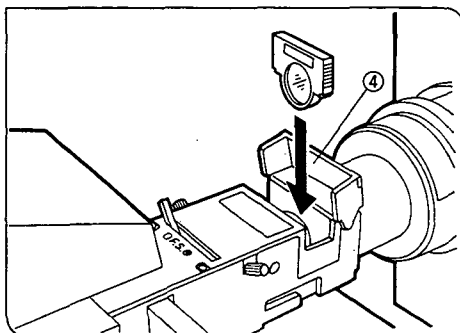

Fig. 16
2. Move the vertical illuminator's cube selector knob ① to the "FL" position.
3. Turn the field iris diaphragm lever ② in the ○ direction to open the diaphragm.
4. Place a white sheet of paper on the stage. Push in the shutter ③ to project the arc image onto the paper.
- ★ Engage an ND filter if the arc image is too bright. (Fig. 16)